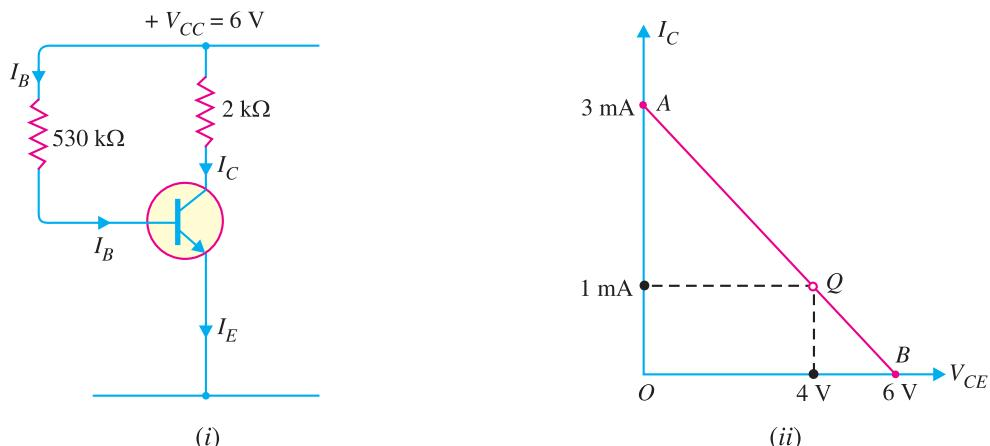

Fig. 9.8
D.C. load line. Referring to Fig. 9.8 (i), $V_{CE} = V_{CC} - I_C R_C$
When $I_C = 0$, $V_{CE} = V_{CC} = 6 \text{ V}$. This locates the first point B ($OB = 6 \text{ V}$) of the load line on collector-emitter voltage axis as shown in Fig. 9.8 (ii).
When $V_{CE} = 0$, $I_C = V_{CC}/R_C = 6\text{V}/2 \text{ k}\Omega = 3 \text{ mA}$. This locates the second point A ($OA = 3 \text{ mA}$) of the load line on the collector current axis. By joining points A and B, d.c. load line AB is constructed [See Fig. 9.8 (ii)].
Operating point Q. As it is a silicon transistor, therefore, $V_{BE} = 0.7V$. Referring to Fig. 9.8 (i), it is clear that :